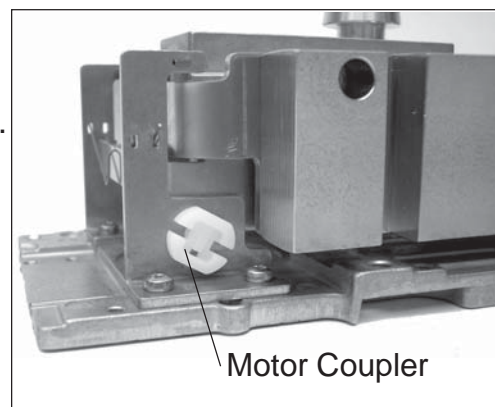

Figure 3-20. Motor Coupler Position.
1. Remove the Motor Coupler as shown in Figure 3-20.
3. With the weights in the upper position, reinstall the Motor Coupler as shown in Figure 3-20.